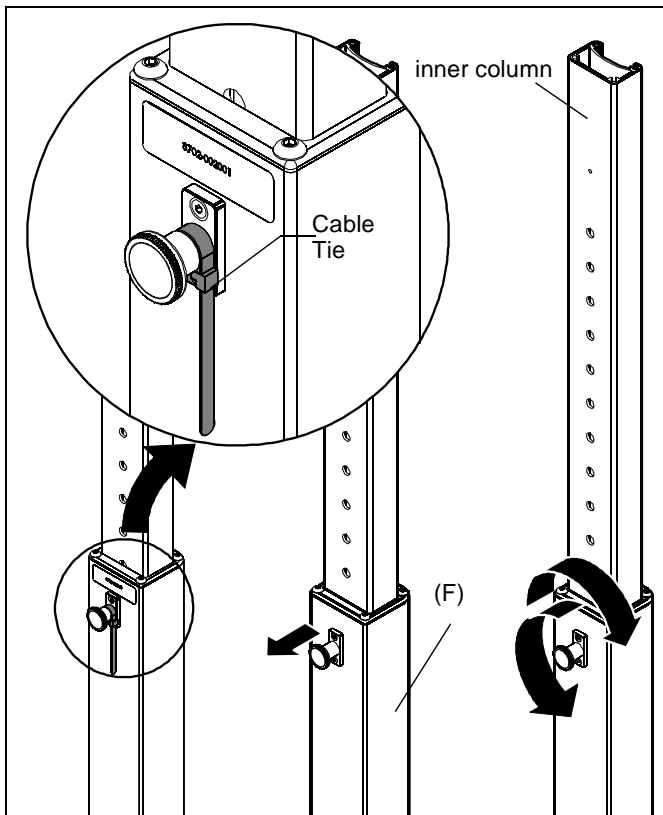

Figure 1
IMPORTANT ! : Press cable tie tab to loosen and remove cable tie from around knob post. (See Figure 1)
1. Lift up slightly on the inner column of upright (F) and hold firmly toward top of upright. (See Figure 1)
2. Pull out knob on the upright and turn 90° in either direction to disengage the locking mechanism. (See Figure 1)
3. Raise the inner column and turn the knob 90° in either direction to engage the knob and lock the column in place. (See Figure 1)